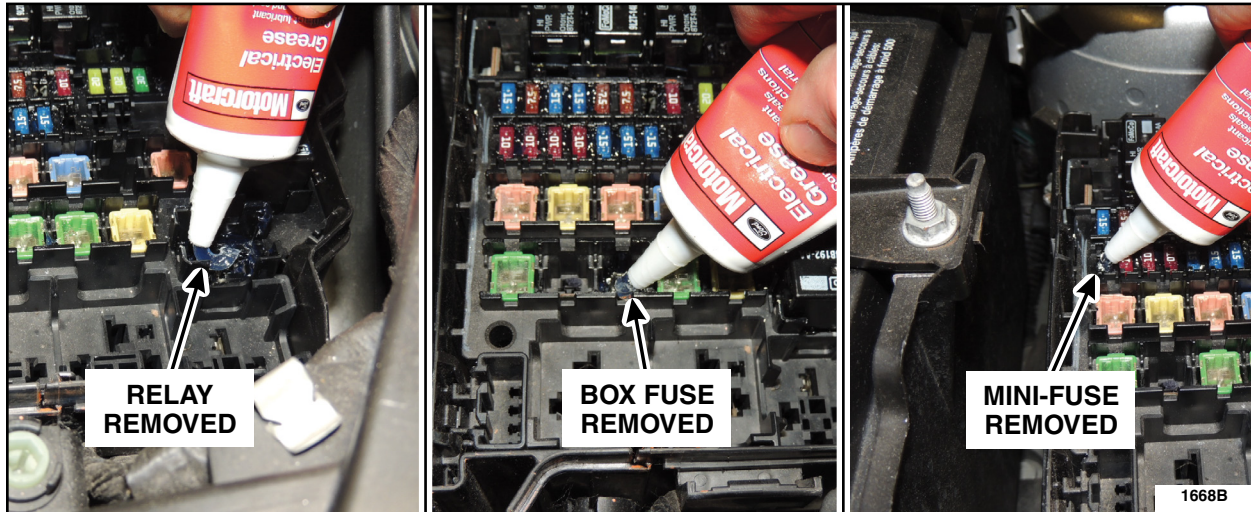

FIGURE 2
3. Remove each fuse and relay one at a time, apply Motorcraft® XG-12 to the cavity/terminal of the BJB, and re-install the fuse/relay. See Figure 2.